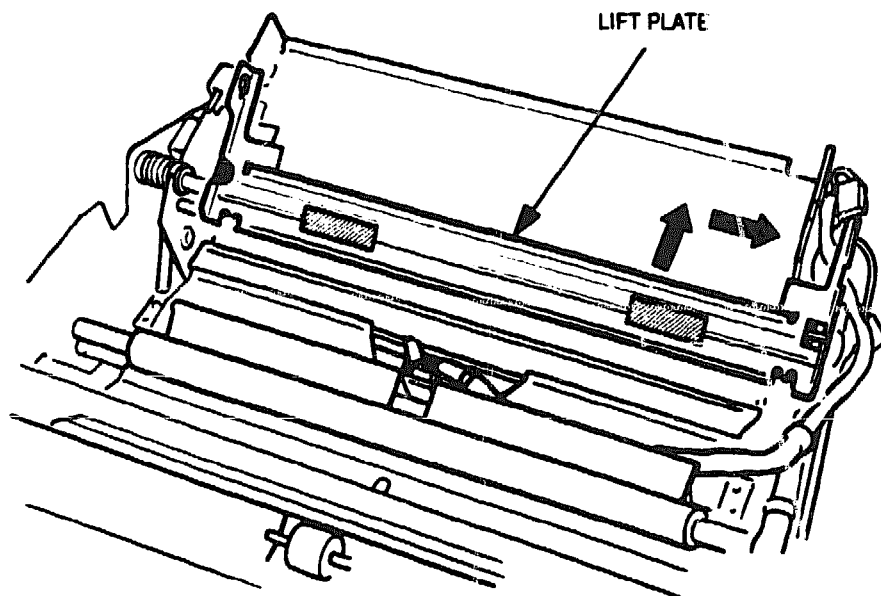

Figure 6-54 Lift Plate
6. Slide the lift plate to the left. Then lift the plate up and remove it from the right side of the printer (see Figure 6-54). Be careful not to drop the bushings on the sides of the lift plate into the printer.